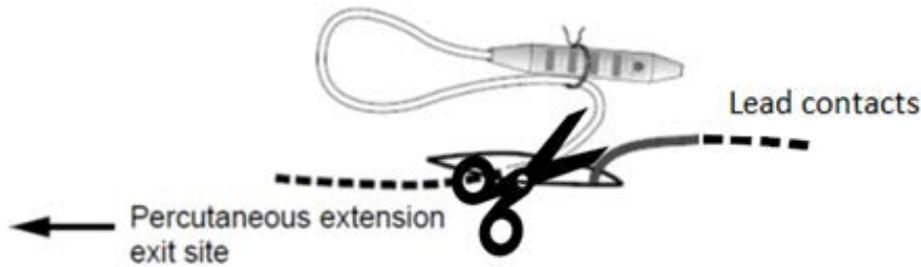

Figure 6. Image showing where to cut the percutaneous extension for removal.
- Cut the percutaneous extension near the incision proximal to where it is tied to the connector (Figure 6).